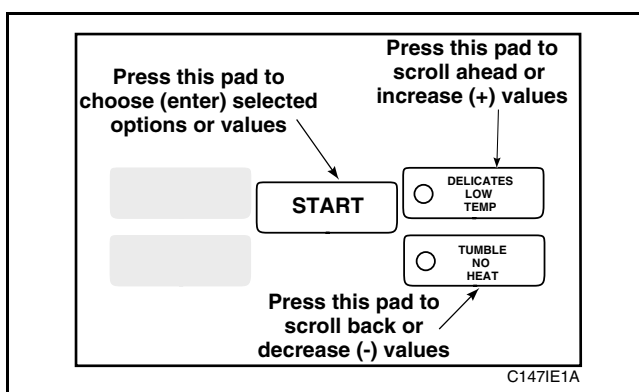

Figure 21
5. Press the LOW TEMP (+) pad or the NO HEAT (-) pad to increase or decrease the current number of coins displayed in the VFD to the desired number of coins, *Figure 21*.